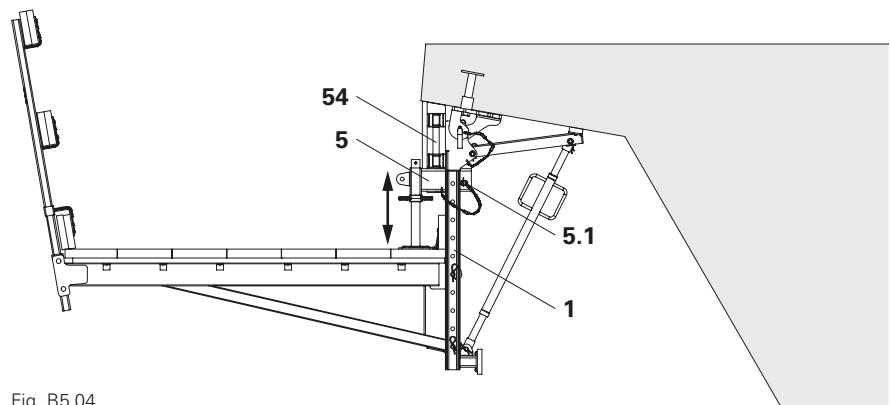

Fig. B5.04
2. Insert Formwork Fixing-2 VGK (5) into Bracket Post VGK (1).
3. Adjust Formwork Fixing-2 VGK (5) to the required height with the spindle.
4. Secure Formwork Fixing-2 VGK (5) with a wedge (5.1).
5. Position internal formwork (54) on Formwork Fixing-2 VGK (5) and align it. (Fig. B5.04)